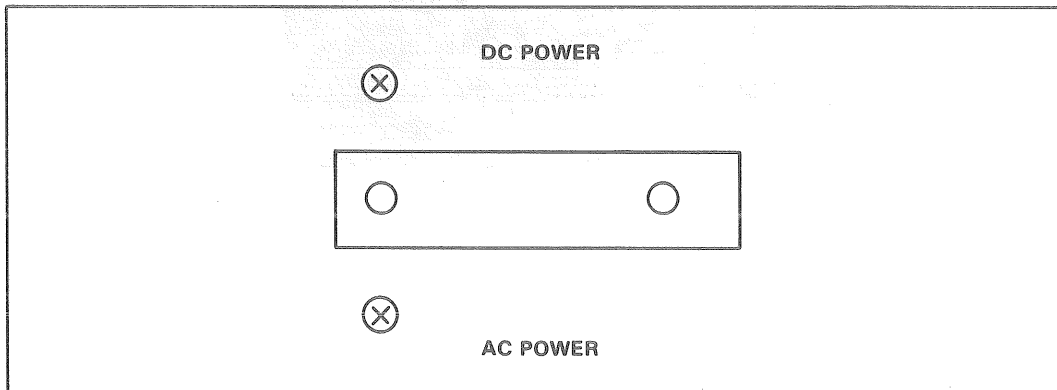

Figure 5
- (4) Insure AC POWER - DC POWER switch of AN/GRC-142 or AN/GRC-122 is in the AC POWER position as shown in figure 5.